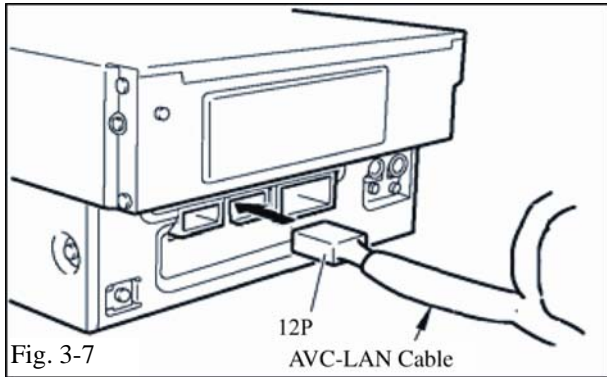

Fig. 3-7
- (e) Plug the connector of the AVC-LAN cable into the head unit. (Fig. 3-7)